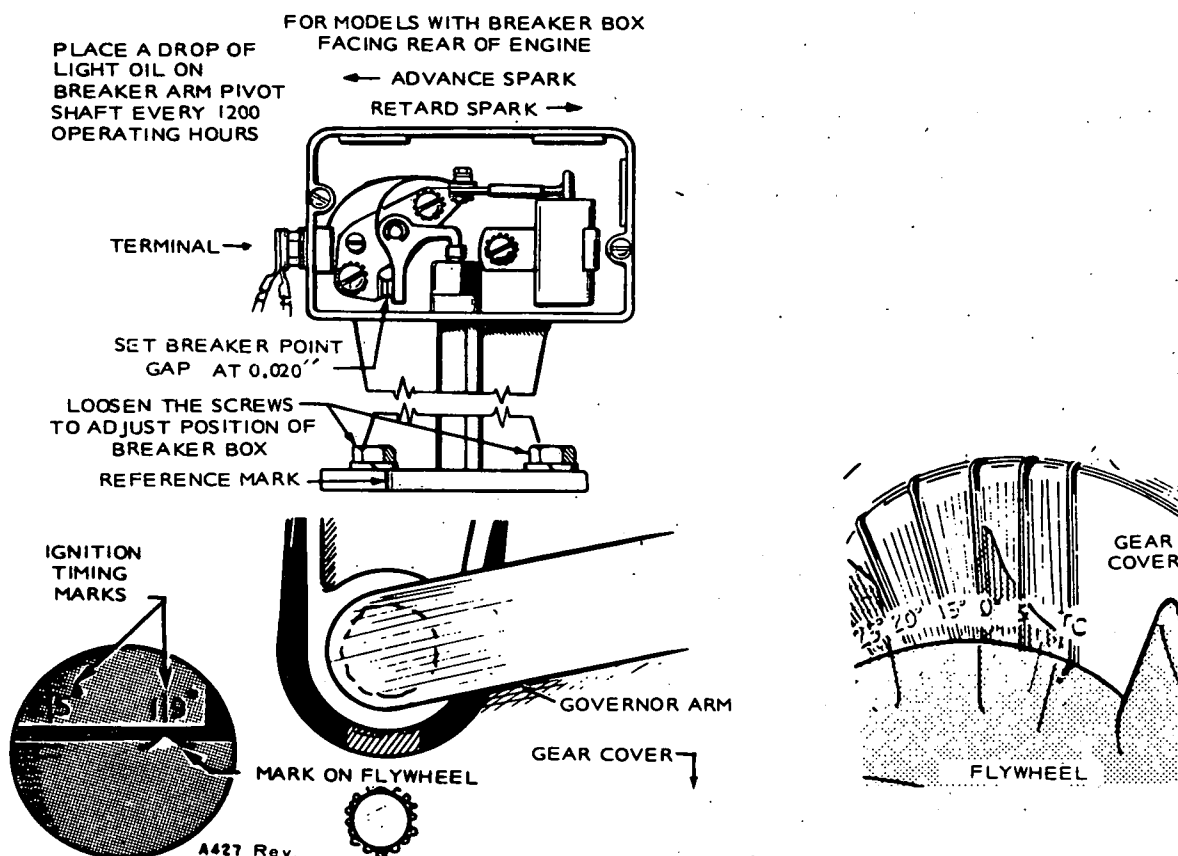

FIGURE 16. IGNITION TIMING
2. Slowly crank engine by hand in direction of crankshaft rotation until witness mark on flywheel and TC mark on gear cover are exactly in line (Figure 16).
6. Tighten breaker box mounting screws securely after making an adjustment (Figure 16).